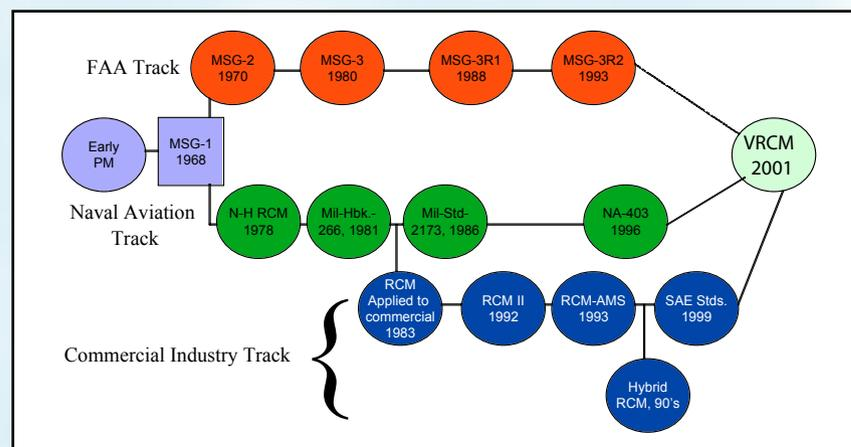

Figure 3 - History of Reliability Centered Maintenance
After MSG-1, RCM development followed three distinct and separate tracks as shown in figure 3. The three tracks are the commercial aviation track, the military aviation track (led by the Navy) and the commercial industry track. The commercial industry track became the most diverse track with many different groups and people entering the market. RCM became divided into two main groups: the "classic" RCM processes and hybrid RCM processes. Hybrid RCM includes a number
1. "There shall exist a clearly defined potential failure" (point B on figure 3).